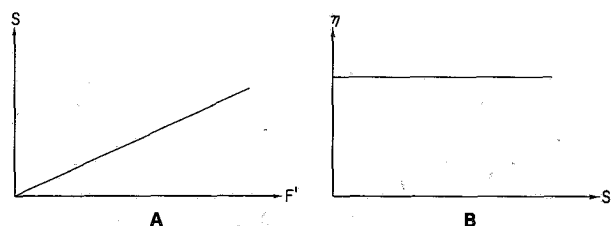

Figure 4-2
The type of flow behavior Newton assumed for all fluids is called, not surprisingly, "Newtonian." It is, however, only one of several types of flow behavior you may encounter. A Newtonian fluid is represented graphically in Figure 4-2. Graph A shows that the relationship between shear stress (F') and shear rate (S) is a straight line. Graph B shows that the fluid's viscosity remains constant as the shear rate is varied. Typical Newtonian fluids include water and thin motor oils.